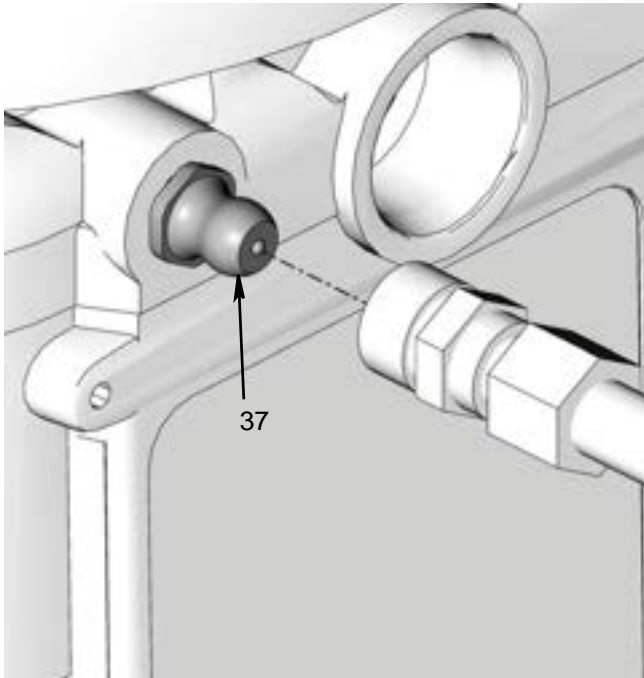

FIG. 11
1. Connect fill hose to inlet fitting *(37) (FIG. 11).
1. Connect fill hose to inlet fitting (FIG. 11).